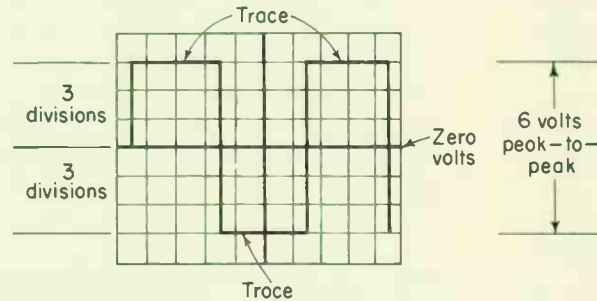

Fig. 6-9. Voltage calibration with internal square waves.
5. Without touching the vertical position control, adjust vertical gain control and align the flat peaks of the square waves with the desired scale divisions. For example, assume square waves with a peak-to-peak amplitude of 6 volts and a scale, as shown in Fig. 6-9. Set the vertical gain control so that the square waves are spread a total of six divisions (three divisions up from the center line and three divisions below the center line). Thus, each division will equal 1 volt, peak-to-peak. In the example shown in Fig. 6-9, this would give the oscilloscope a vertical deflection factor of 1 volt/cm, with the step-attenuator set to X1. If the step-attenuator were then moved to X10, the factor would be 10 volts/cm.